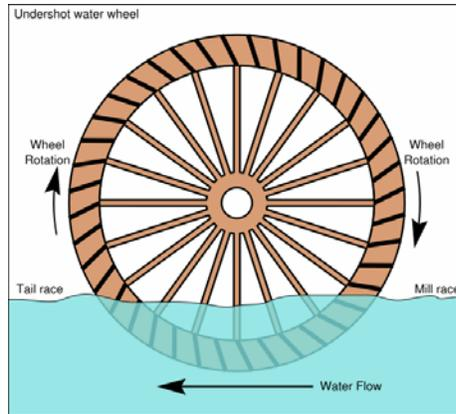
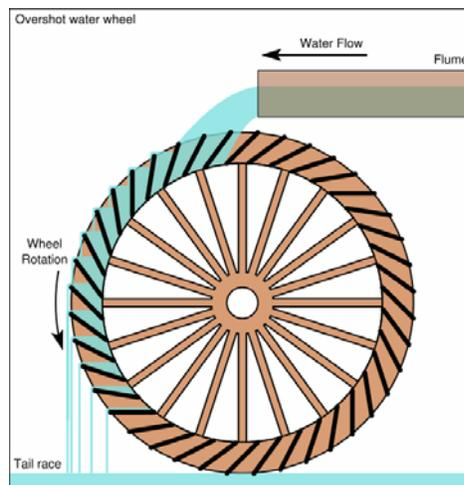

Figure 1. Undershot water wheel.
Figure 2 Overshot water wheel
- The “river will consist of a tub on an incline and a hose. Water will run through the hose to simulate the force of the river. In the first system, the undershot waterwheel, the hose will be placed under the water. Please see Figure 1. In the second system, the overshot waterwheel, the hose will be placed over the waterwheel. Please see Figure 2.